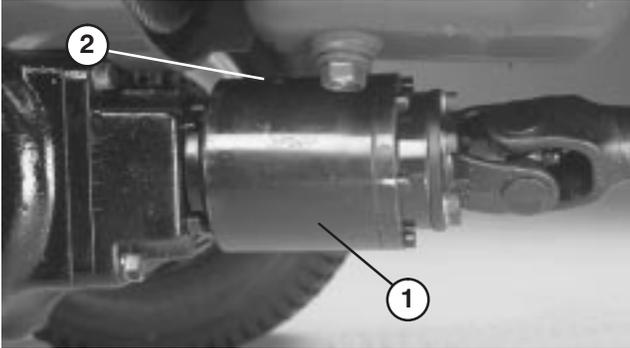

Figure 68
3. Rotate clutch so check plug is positioned downward (Fig. 68).